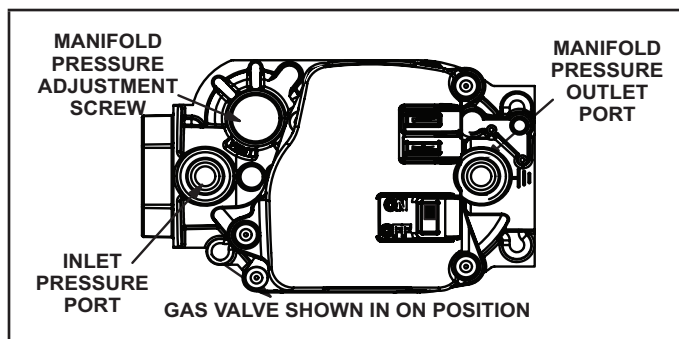

Figure 60
## Gas Valve Operation (Figure 60)
- 6 - Move gas valve switch to OFF. See Figure 60.
- 8 - Move gas valve switch to ON. See Figure 60.